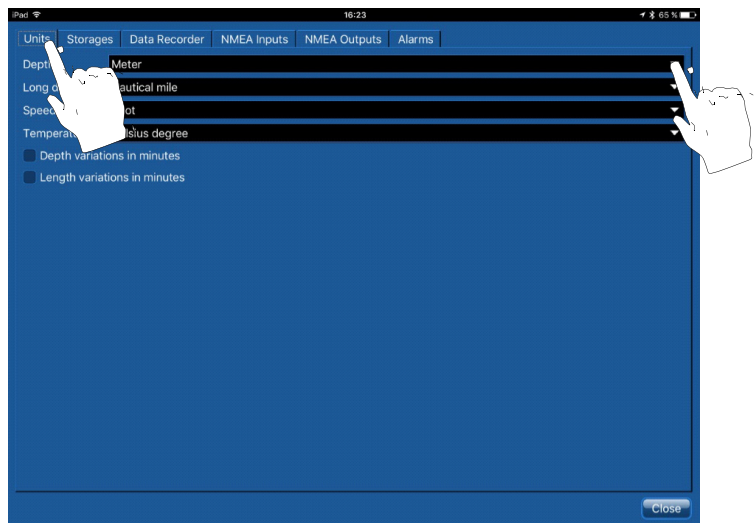

Figure 27. Changing Units of measure
1. Touch the **Units** tab (Figure 27).